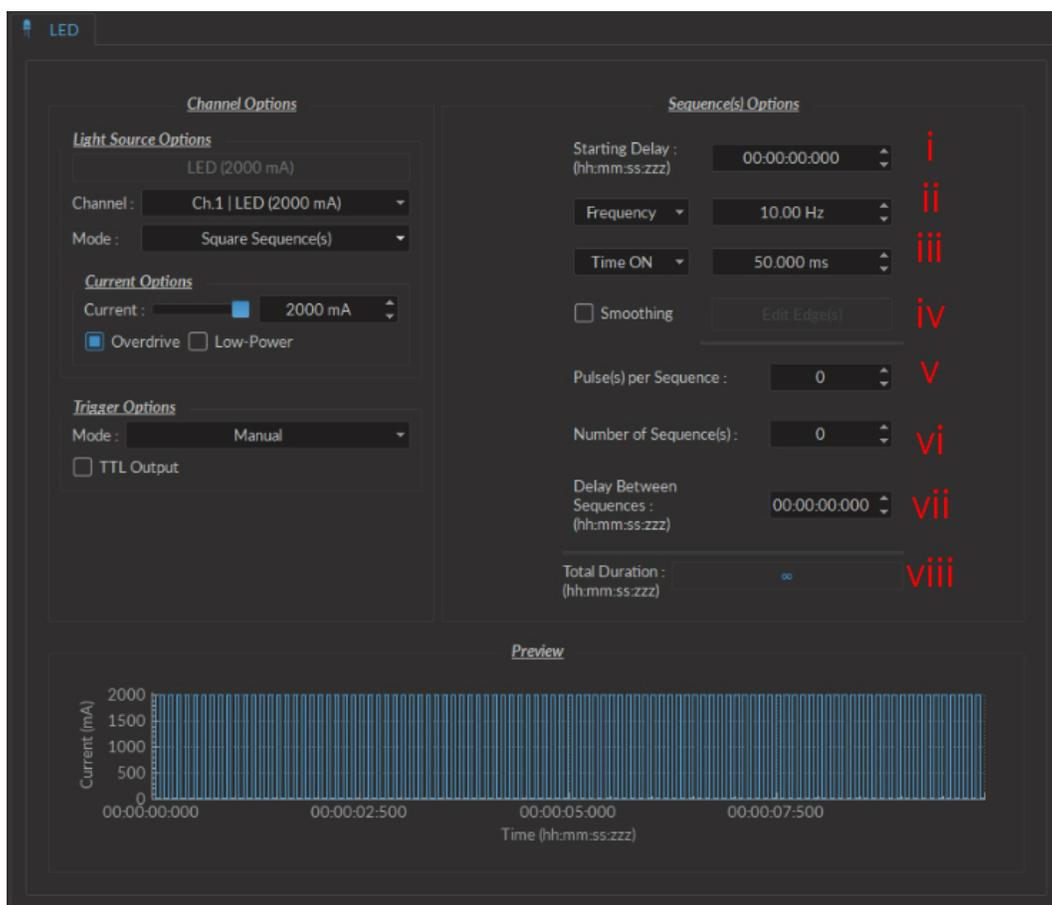

Figure 4.6: Light Source Channel Configuration Window, square sequence options
- i. The **Starting Delay** (Fig. 4.6) sets the delay (in hh:mm:ss:zzz format) before the first pulse.
- ii. The **Frequency/Period** (Fig. 4.6) sets the frequency (in Hz) or period (in ms) for the pulse sequence. For example, a signal at 10 Hz (frequency) will output one pulse every 100 ms (period), whereas a pulse sequence at 0.5 Hz (frequency) will output one pulse every 2000 ms (period).
- iii. The **Time ON/Duty Cycle** (Fig. 4.6) sets the time (in ms) or the duty cycle (in %) for each pulse. The **Time ON** must be lower than  $(1/\text{frequency}) + 0.005$  ms, while the **Duty cycle** must be below 100 %. These squares will appear red should an impossible **Frequency/time ON** be selected. Should the
- v. The **Pulses per sequence** (Fig. 4.6) sets the number of pulses per sequence. If it is set to 0, the pulse will be repeated indefinitely.
- vi. The **Number of sequences** (Fig. 4.6) sets the number of times that the sequence will be repeated. If it is set to 0, the sequence will be repeated indefinitely.
- vii. The **Delay between sequences** (Fig. 4.6) sets the delay (in hh:mm:ss:zzz format) between each sequence if the **Number of Sequences** is greater than 1.
- viii. The **Total Duration** (Fig. 4.6) displays the total time of the experiment. The different values can be *Inf* for infinite, a valid time value or *Err* if the **Time ON** value is greater than 1/frequency.